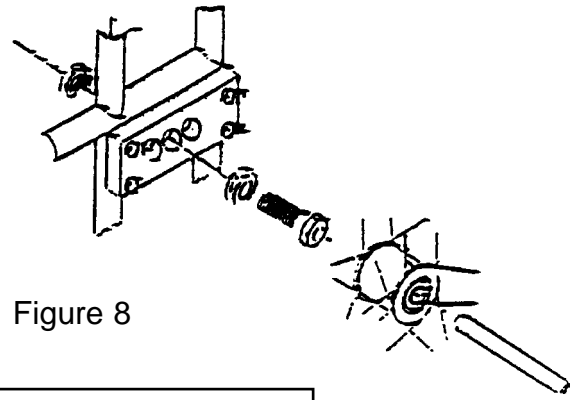

Figure 8
- 8 The balance of the wheelchair can be adjusted by selecting from three wheel positions (see FIG 8).